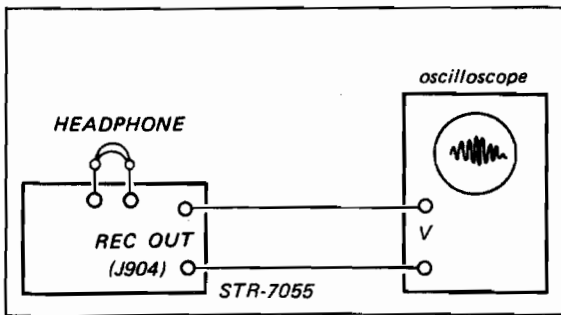

Fig. 3-5. Discriminator alignment test setup
2. Connect the input cable of the oscilloscope to REC OUT jack (J904) as shown in Fig. 3-5.